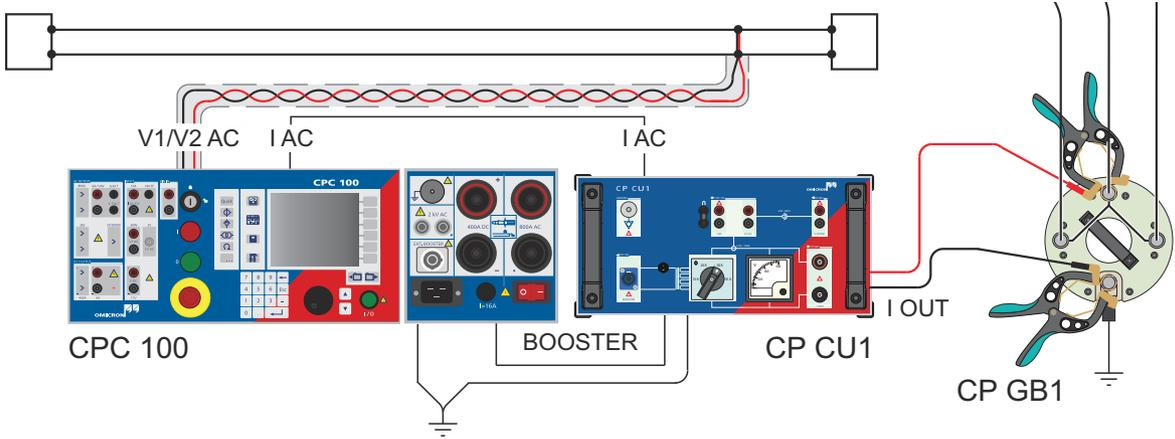

Figure 6-4: Coupling into signal cables measurement setup for the line-to-ground calibration
15. Short-circuit the measurement cable at the end and connect it to the signal cable as shown in Figure 6-4 below.